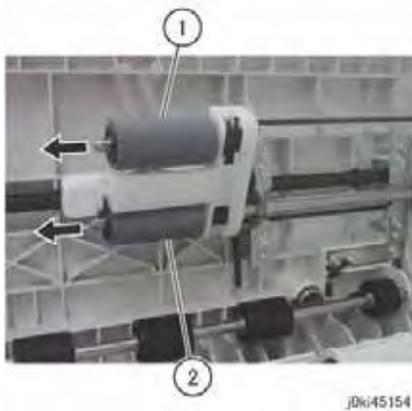

Figure 4 Nudger/Feed Roll Removal
6. Remove the Nudger Roll and the Feed Roll. (Figure 4)